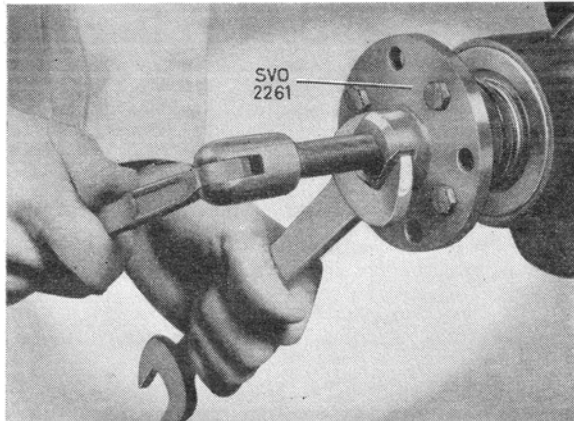
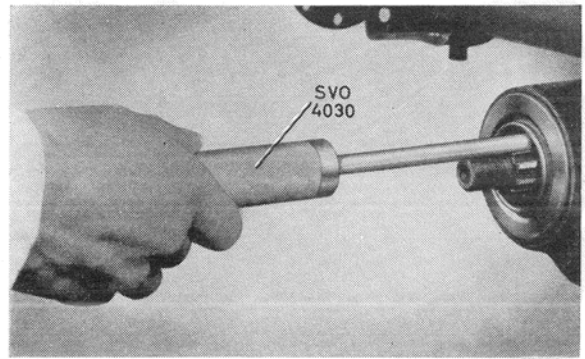

Fig. 6. Removing the flange.
Fig. 7. Removal of seal ring.
2. Remove the flange nut and pull this off with tool SVO 2261 (tool SVO 4068 A can be used). See fig. 6. Remove the oil seal ring by using tool SVO 4030 as shown in fig. 7.
1. Place the rear axle in fixture SVO 4110. Check that the cap (37) for the differential carrier is marked. If not, mark one side with a punch. Remove the cap bolts (44).
2. Remove the adjusting nuts (34) and the bearing rings. Lift out the differential and the crown wheel.
3. Loosen the nut (22) and pull off the flange (21) with tool SVO 2261, fig. 6. (SVO 4068 A can be used). Press out the pinion (18).
4. Pull out the seal ring (20) with puller SVO 4030 from the forward end of the pinion housing, fig. 7. Take out the paper washer, the metal washer (19) and the roller bearing (25).